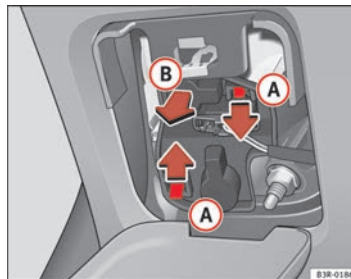

Fig. 221 Remove the bulb holder
- Press on the tabs **A** ⇒ page 274, fig. 221 in the direction of the arrows and remove the bulb holder by pulling in the direction of the arrow **B**.